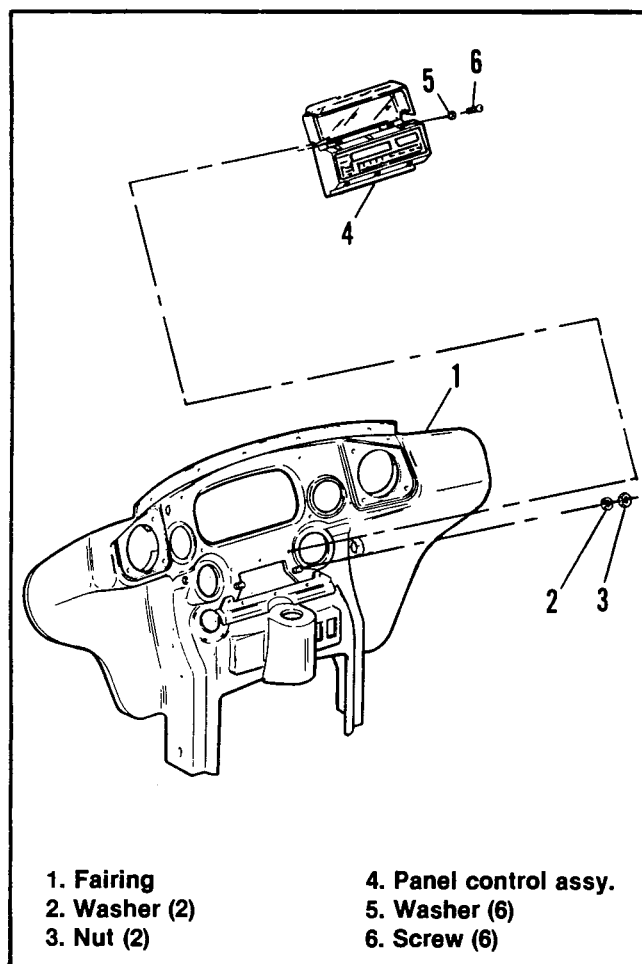
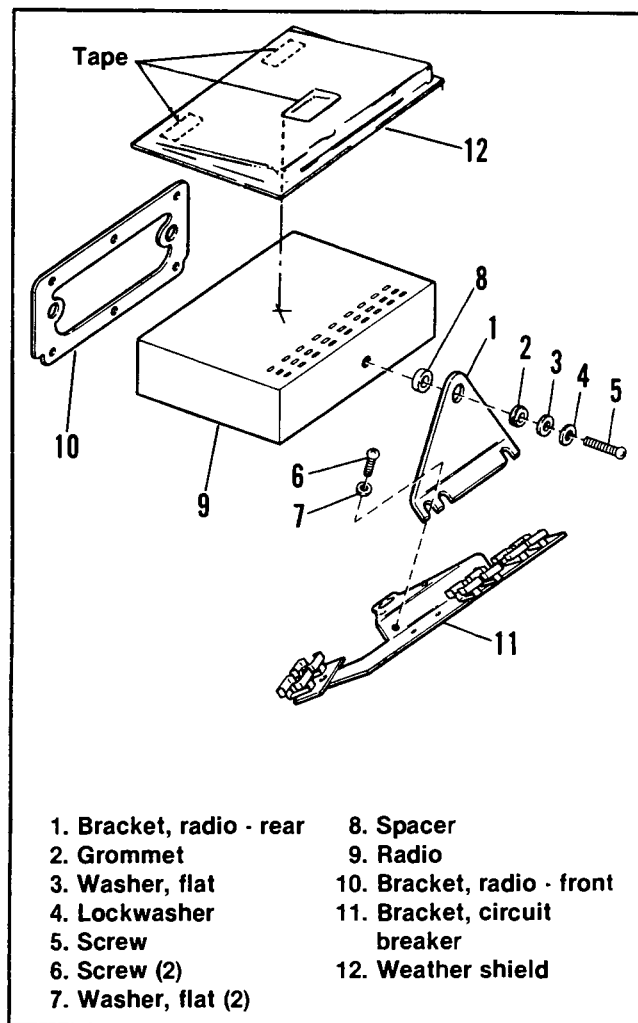

Figure 2. Front Radio Mounting — FLHTC
Figure 3. Rear Radio Mounting — FLHTC
6. See Figure 2. Remove radio hood and control panel assembly (4).
7. Remove radio front stud nuts (3) and washers (2).
8. See Figure 3. Remove rear support screw (5) with lockwasher (4) and washer (3).
9. Loosen screws (6) and remove rear support (1).
10. Carefully remove radio chassis (9).
1. See Figure 3. Remove weather shield (12) from original radio chassis and remove old mounting tape. See Figure 4. Install new mounting tape Part No. 76301-86 in the three locations shown. Press weather shield into place on top of radio chassis.
2. See Figure 3. Install bracket (10) and place radio in position with front support studs extending through fairing. See Figure (2). Install washers (2) and nuts (3). Tighten nuts (3) finger tight only.
3. Position support (1) with slots around screws (6) and under washers (7). Loosely snug down screws (6).
4. Insert screw (5) through lockwasher (4), washer (3), grommet (2) and spacer (8). Thread and tighten screw (5) into threaded hole in back of radio (9). Tighten screws (6).
5. Join electrical connectors and connect speedometer cable. See Figure 2. Tighten nuts (3).
See Figure 2. Do not overtighten mounting screws (8). Overtightening mounting screws will distort rubber hood (6) and prevent the hinged cover from operating properly.
7. Install radio hood and control panel assembly (4) using screws (6) and washers (5).